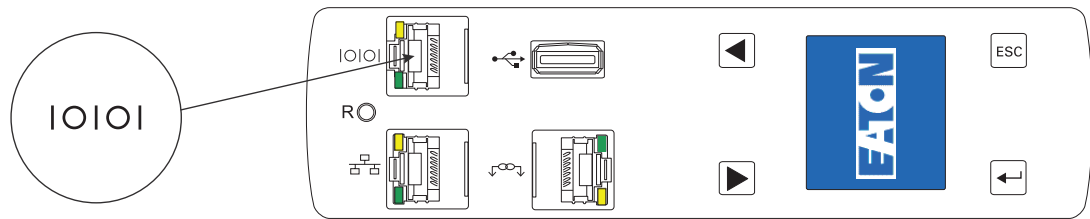

Figure 31. Connecting the EMP to the ePDU RJ-45 Serial Port Connector
3. Locate the Ethernet cable dedicated to the EMP. Connect one end of the cable to the RJ-45 connector on the EMP, then connect the other end of the cable to the serial connector on the ePDU (see Figure 31).